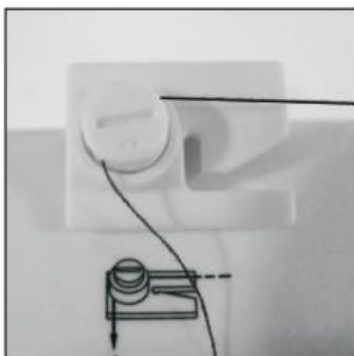

Fig.12
2. Guide the thread through the bobbin winder tension disk on the upper side of the machine.(Fig.12)